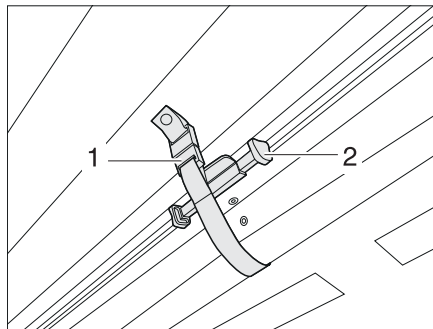

Fig. 13 Securing the Roman shade for the windscreen
- Use the handle (Fig. 13,2) to push the Roman shade for the windscreen upwards until it latches in place. Secure with the securing loop (Fig. 13,1). The Roman shade is secured.